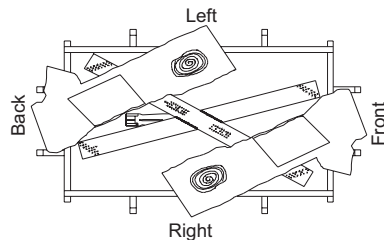

Figure 46 - Installing Logs "A" (Top View)
6. Place logs "A" as shown in Figure 46.